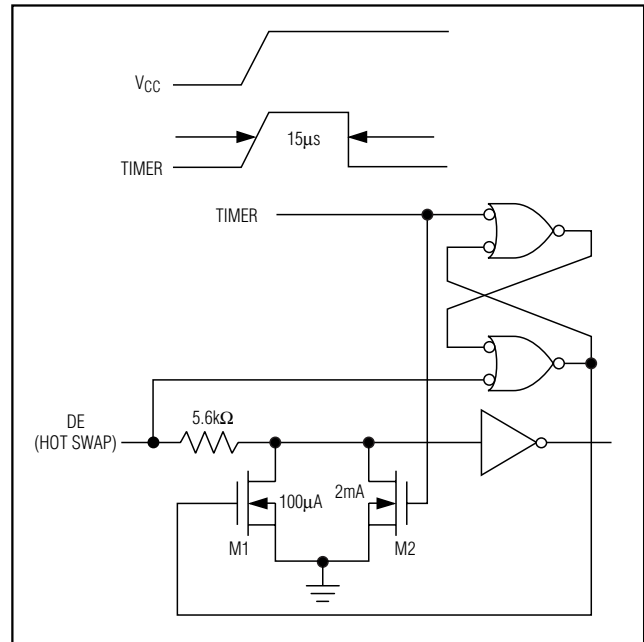

Figure 10. Simplified Structure of the Driver Enable Pin (DE)
At the driver-enable input (DE), there are two NMOS devices, M1 and M2 (Figure 10). When VCC ramps from zero, an internal $15\mu\text{s}$ timer turns on M2 and sets the SR latch, which also turns on M1. Transistors M2, a 2mA current sink, and M1, a $100\mu\text{A}$ current sink, pull DE to GND through a $5.6\text{k}\Omega$ resistor. M2 pulls DE to the disabled state against an external parasitic capacitance up to 100pF that may drive DE high. After $15\mu\text{s}$, the timer deactivates M2 while M1 remains on, holding DE low against three-state leakage currents that may drive DE high. M1 remains on until an external current source overcomes the required input current. At this time, the SR latch resets M1 and turns off. When M1 turns off, DE reverts to a standard, high-impedance CMOS input. Whenever VCC drops below 1V , the input is reset.